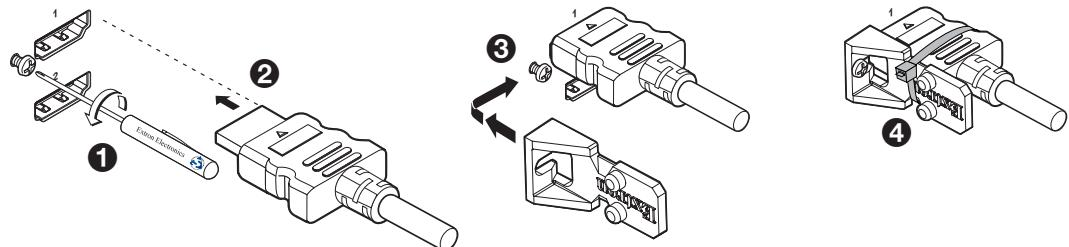

Figure 18. LockIt Cable Lacing Bracket Mounting Instructions
1. Loosen the side HDMI connection mounting screw (see figure 18, ①) so there is enough space between the device and the screw head to fit the cable lacing bracket. Do not remove the screw from the device.
2. Plug the HDMI cables into the panel connection (②).
3. Place the bracket on the screw and against the HDMI cables, and then tighten the screw to secure the bracket (③).